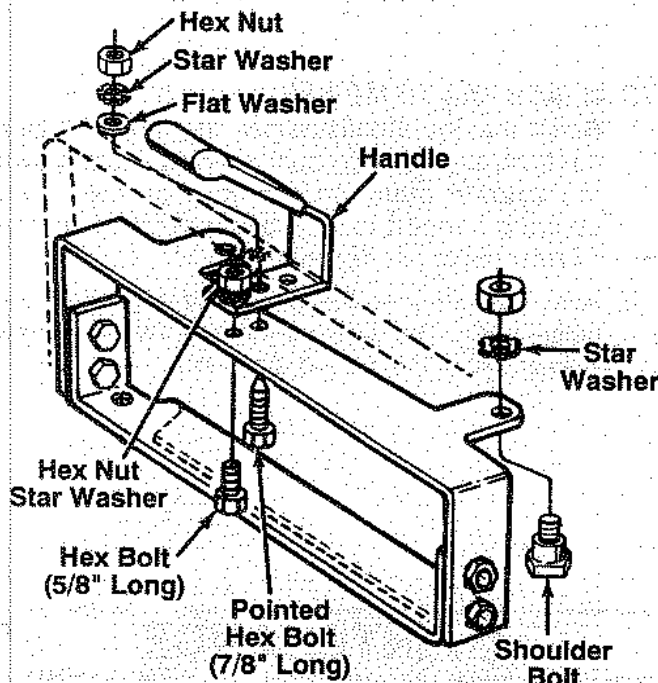

FIGURE 2.
3. Using **Hardware A**, attach the upper opening support (Ref. 2) and lower opening support (Ref. 1) to the frame and grass bag as shown in figure 2. Insert hex bolt 1-1/4" long through upper and lower opening supports, lower frame and eyelet on grass bag. Secure with 1/4" star washer and hex nut. Secure both bolts on one side first, then the other side. Tighten finger tight only at this time.
4. Using **Hardware B**, attach the handle (Ref. 14) to the upper opening support as follows, using the holes shown in figure 2.
- a. Using the hole in the upper opening support closest to the grass bag, secure the handle with the 5/8" long hex bolt, 1/4" star washer and hex nut as shown in figure 2. Tighten securely.
5. Attach **Hardware C** to the edge of the upper opening support as shown in figure 2. Tighten securely.